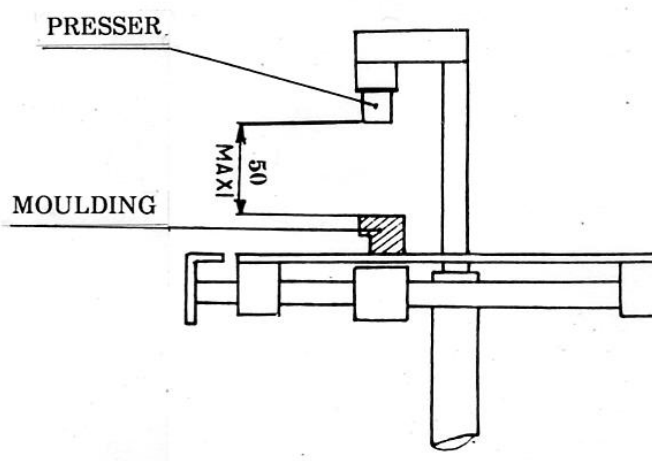

FIGURE 8
- Check that the distance between the top of the moulding and the bottom of the presser does not exceed 50 mm (Fig 8).